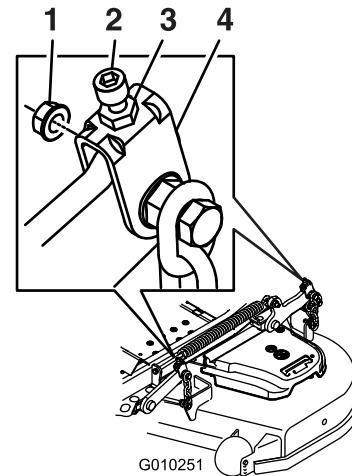

Figure 93
10. If needed, loosen the whizlock nut on the side of the yoke and the jam nut on top (Figure 93).
17. Fine tune the screw adjuster by turning it to get 8.3 mm (3-1/4 inches) height (Figure 93).